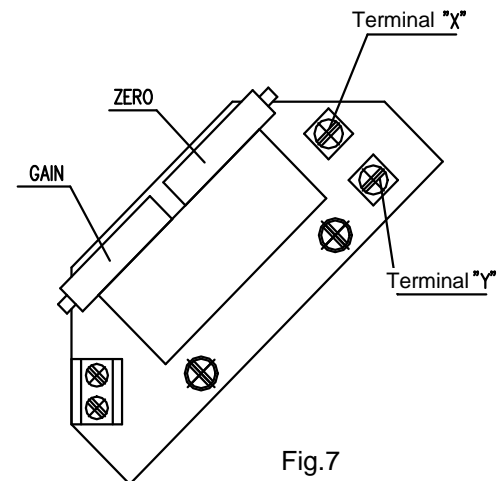

Fig.7
3.4.1 EPV – the 2-wire version (Fig. 7,7a)
- Adjust the resistive transmitter according to the previous chapter. The resistance is to be metered on the terminals R-R (Fig. 7,7a). The used transmitter resistance is 100 Ω .
- Adjust the resistive transmitter according to the previous chapter. The resistance is to be metered on the terminals X-Y (Fig. 7,7a).